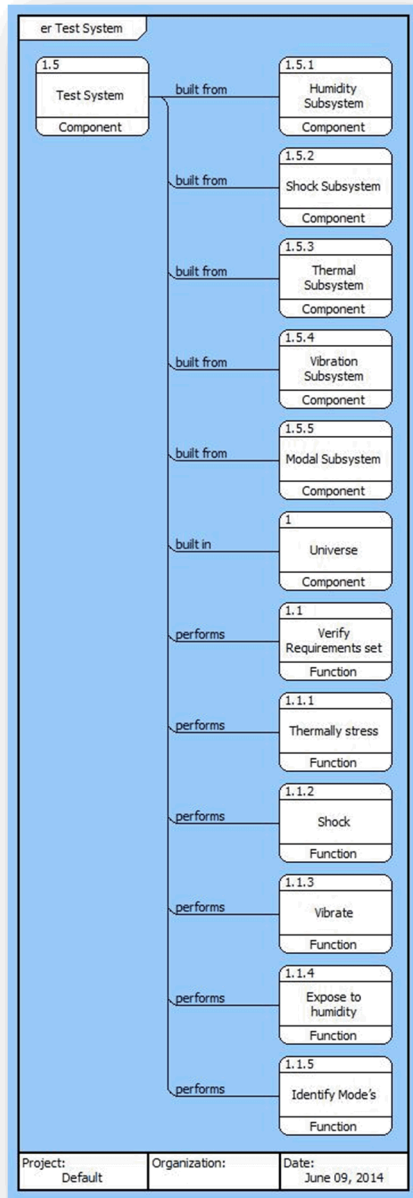

Figure 14
*based on this architecture, as long as the component is still able to perform as well or better than the previous component. Designing for simplicity adds value and is a desired attribute in this architecture. Using one component to perform more than one function is a possibility with this approach. One of the opportunities to perform two functions with one component is by using the Vibe subsystem to identify Modes. There is a method for gaining some insight to a components Modal response or resonant frequencies using a vibe table. Unfortunately the method of using the vibe table is not going to fully meet the customers expectation after a review of the requirements. There are more constraints and a more detailed characterization of the components modes, dampening, and mass properties required. As such, a separate subsystem is used to perform the Identify Modes function. I don't believe this architecture precludes implementing the discussed consolidation if cost or schedule drive a reduction in requirements. Unfortunately, the tradeoff for a simple architecture is a significantly more difficult mapping from requirements to the functional architecture. I am expecting the mapping between the requirements and the components or functions will be hard to follow. The mapping is not obvious in figure 14. The Humidity Subsystem performs the Expose to humidity function. The shock subsystem performs the shock function. The thermal subsystem performs the thermally stress function. The Vibration subsystem performs the vibrate function. Finally, the modal subsystem performs the identify modes function.*